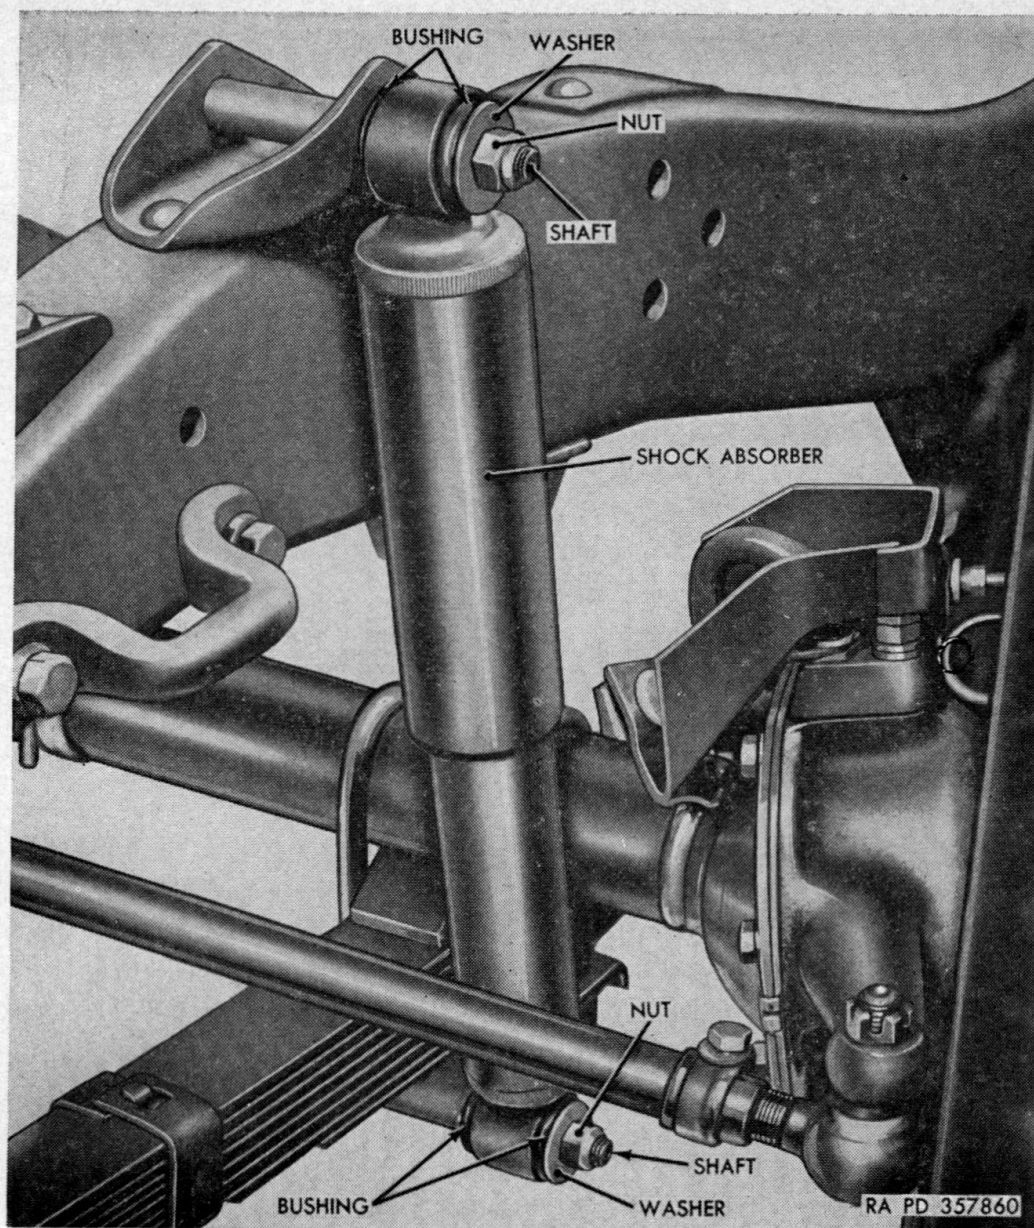

Figure 53. Shock absorbers.
*a. REMOVAL.* Remove nuts holding upper and lower washers against the rubber bushings on shafts. Remove washers and pull off shock absorbers and bushings (fig. 53).
b. **INSTALLATION.** Install inner rubber bushings on upper and lower shafts. Install shock absorber and outer bushings and flat washers. Install nuts and tighten until bushings show compression behind washer (fig. 53).